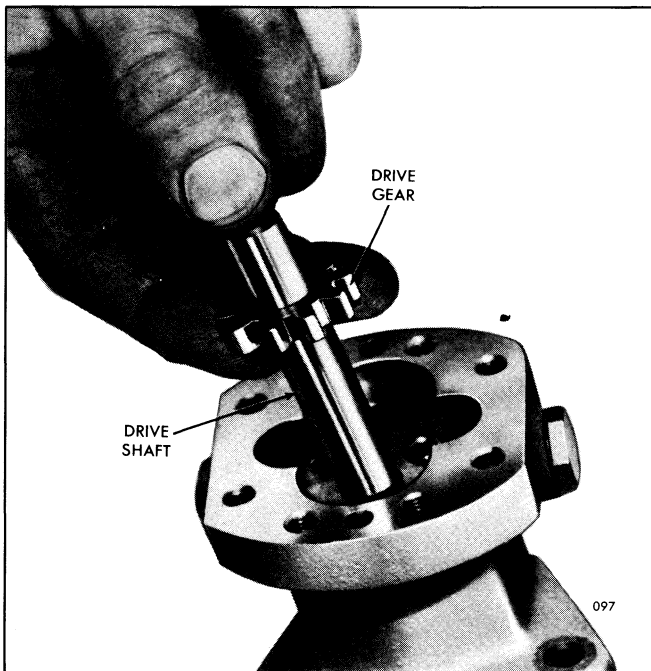

Fig. 12 - Installing Fuel Pump Drive Shaft
4. Lubricate the pump drive shaft and insert the square end of the shaft into the opening at the gear side of the pump body and through the oil seals (Fig. 12).